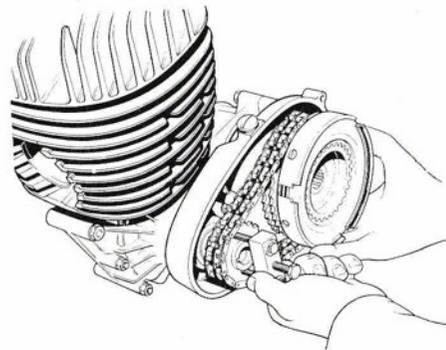

Fig. 7 Removing engine sprocket, chain and clutch as a set. Note engine sprocket puller fitted.
- 9 Fitting a three bolt puller part number 0710060 as shown in Fig. 7, pull the engine sprocket off the crank key by securing the two outer bolts to the sprocket then tightening the center bolt.